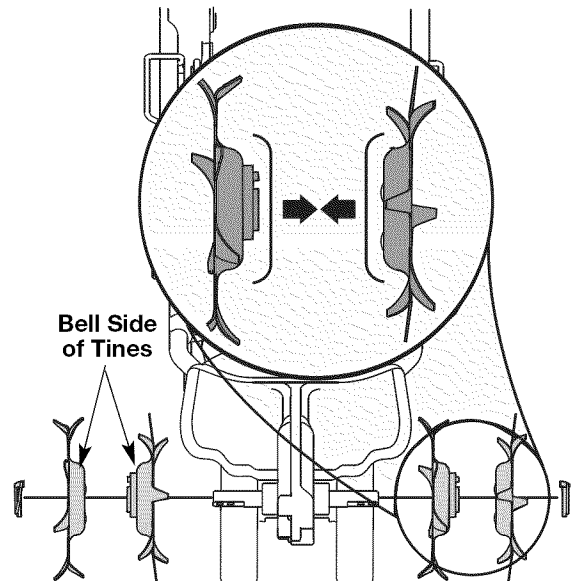

Fig. 9
NOTE: Each tine assembly is stamped either "A" or "B" (Fig. 9). Note each tine's location on the shaft for easier reassembly.
- The bell sides of both tine assemblies (on each shaft) should face each other (Fig. 9).
- The hub of each tine assembly (Fig. 9) should face outward (away from the cultivator's gearbox).